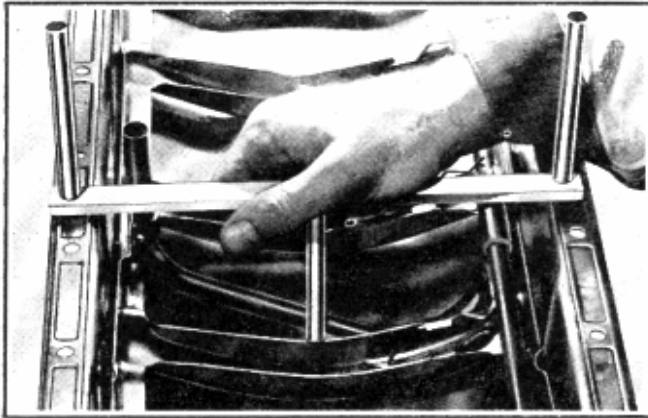

Fig. 46—Checking Oil Trough Depth
2. Check the oil trough height with the oil trough depth gauge, J-969-2, by placing the bar of the gauge on the pan rail. The stem of the gauge should just touch the edge of each of the six oil troughs, Fig. 46.